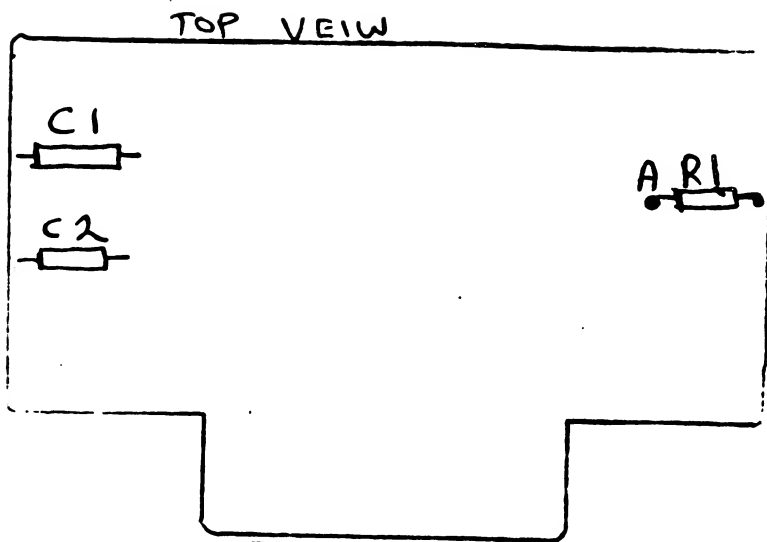

FIG. 1
- 3)REMOVE C1+C2(FIG.1) FROM THE BOARD YOU SELECT AS YOUR NEW BOARD AND MOUNT THEM ON THE TRACE SIDE OF THE BOARD.THIS MAKES MORE ROOM FOR THE SWITCHES ON TOP.
- 7)REMOVE THE END OF R1(FIG.1) WHICH IS CONNECTED AT POINT A.SOLDER 2 PIECES OF WIRE TO THE HOLE AT POINT A.SOLDER A WIRE TO THE END OF R1 WHICH YOU REMOVED FROM POINT A.INSULATE THIS CONNECTION.
hole marked F2. You can make the other connections at F2 to this diode. The other end of D1 solders into the hole at the bottom right grom location. This would be grom pin 9 as shown in figure 1. Connect the positive lead of C2 to F2 and the other lead to ground. Solder the banded end of D2 to R3(1K) then connect the other end of R3 to F2. Connect the free end of D2 to the positive side of the battery holder or if you are not using a holder connect a short length of wire to the diode for use later.